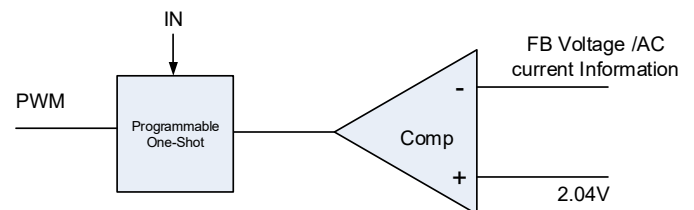

Figure 6. Simplified Control Schematic of AOZ2297QI-05
The control algorithm of AOZ2297QI-05 is constant-on-time PWM control with input feed-forward. The simplified control schematic is shown in Figure 6. The high-side switch on-time is determined solely by a one-shot whose pulse width is inversely proportional to input voltage (IN). The one-shot is triggered when the internal V_{REF} is higher than the combined information of FB voltage and the AC current information of inductor, which is processed and obtained through the sensed low-side MOSFET current once it turns-on. The added AC current information can help the stability of constant-on time control even with pure ceramic output capacitors, which have very low ESR. The AC current information has no DC offset, which does not cause offset with output load change, which is fundamentally different from other V^2 constant-on time control schemes.